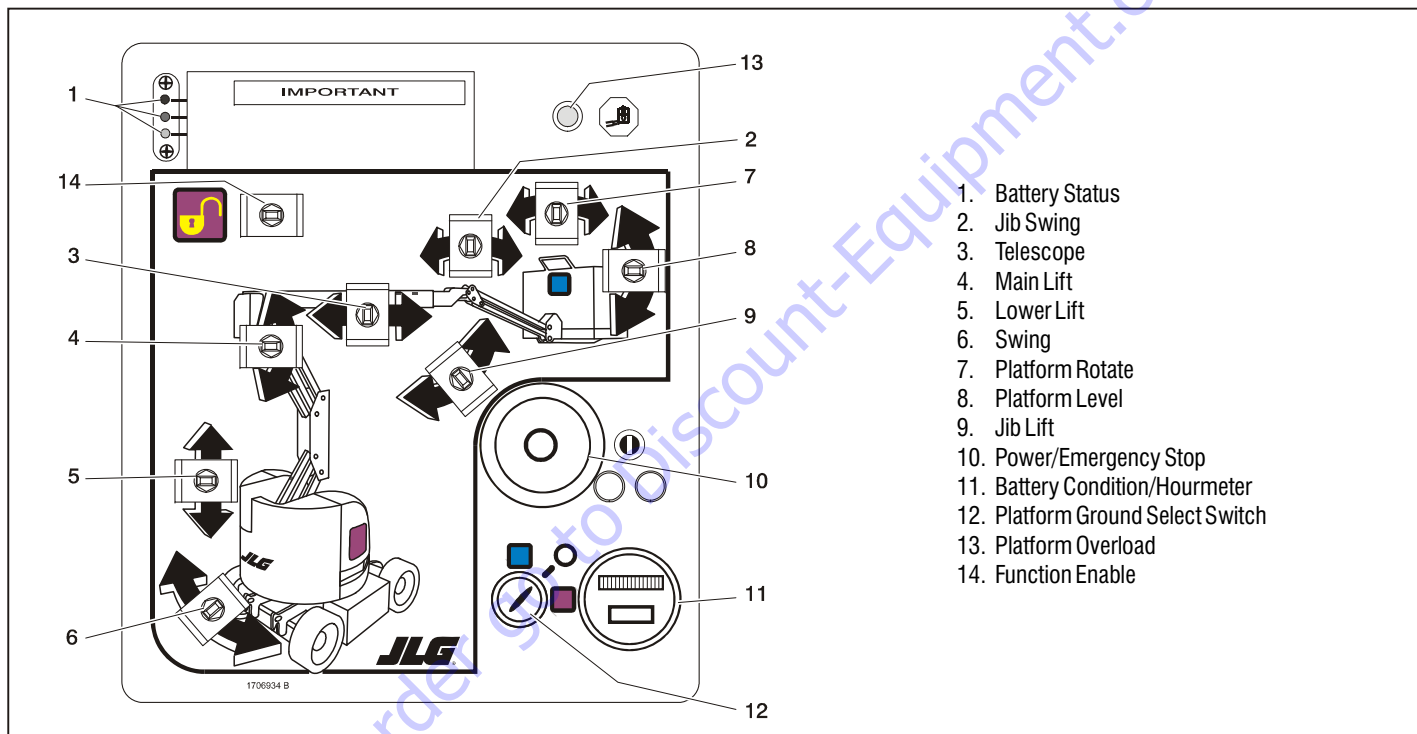

Figure 3-3. Ground Control Station - 300AJP
*See Figure 3-1., Figure 3-2., and Figure 3-3.*